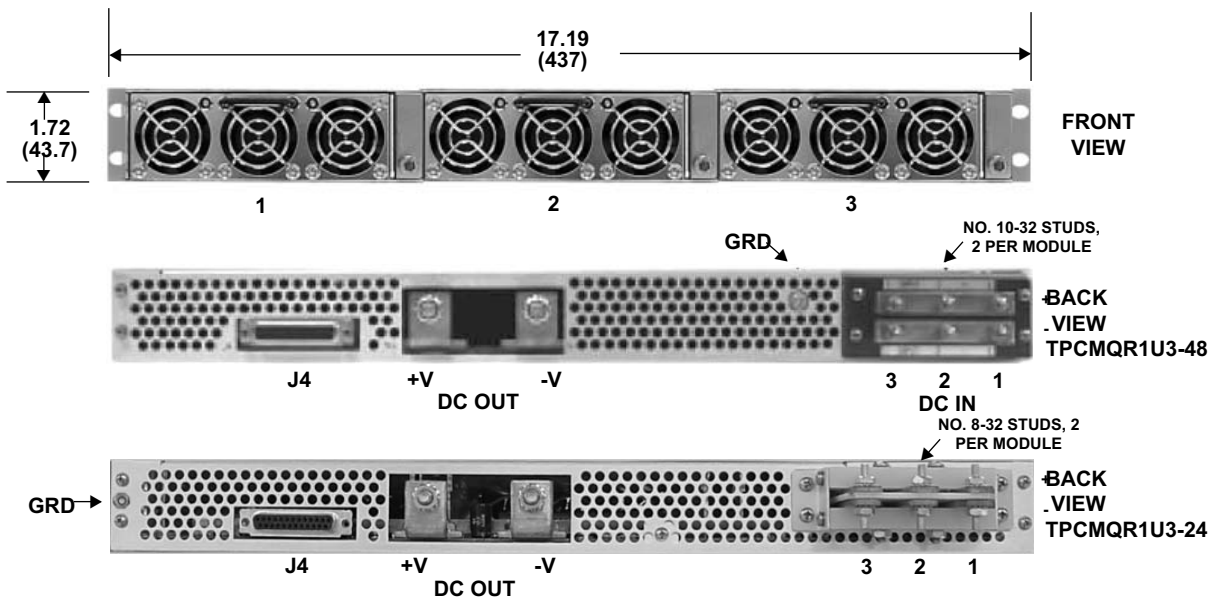

Figure 4. Front and Back of TPCMQ Series Rack/Shelves
- 12.1 Input Voltage.** The TPCMQ Series converters operate off DC input voltages within the range of 40 to 60 or 20 to 30VDC. There is a separate input connection for each converter module to bus bars at the rear of the rack/shelf. For complete details see Section 17.2 and Figure 4.
- 12.2 Output Connection.** The DC output of the rack/shelf is provided at two copper bus bars. Each bus bar has a no. ¼-20 stud and nut for the output connections. For complete details see Section 17.3 and Figure 4. Both positive and negative outputs are floating and isolated from the chassis.